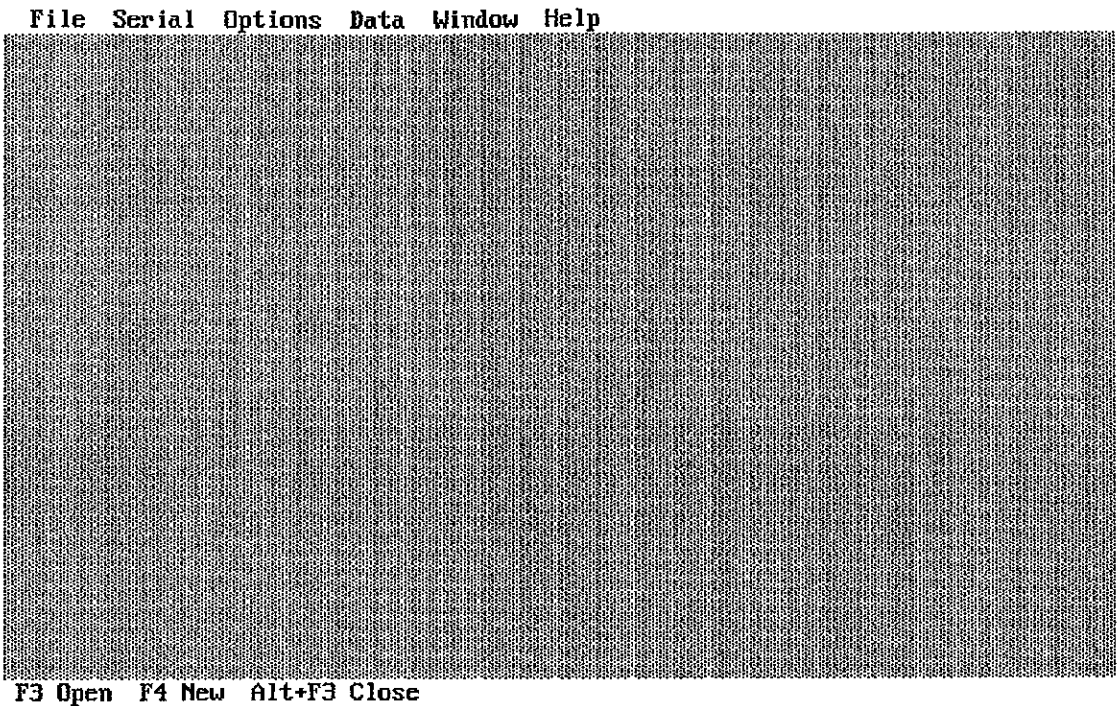

Figure 3-23. Computer Diagnostic Program Opening Screen
- d. The initial diagnostic screen will look similar to Figure 3-23.